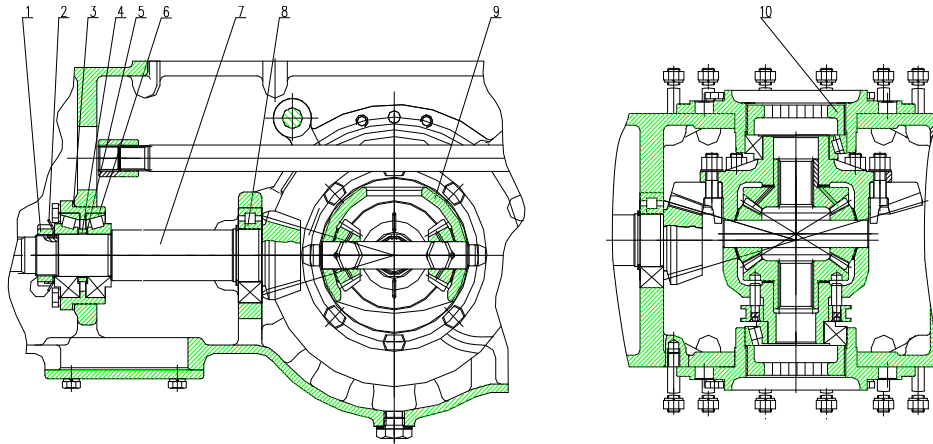

Figure 5-6 Structure of Rear Axle and Its Adjustment
Rear axle is composed of center drive, differential, differential lock and PTO shaft. (Figure 5-6)
- Adjustment of bevel pinion bearing ( Figure 5-6)
Left/right bearing of differential are also pretightened. During using, axial clearance may occur in the large conical gear and pretightening force may reduce due to worn bearing; thus, you should check it regularly (when every 3 class maintenance). When adjusting, tighten the left/right adjusting nuts (Figure 5-6), and keep the axial pressure of the bearing at about 350N.
- Engagement adjustment of central bevel gear ( Figure 5-6)
- Check meshing mark. Smear the tooth surface of large conical gear with catsup thinly and evenly. When going forward, the concave of the bevel pinion suffers the force. Smear the catsup over tooth surface of the large conical gear; turn the gear, and you will get the meshing mark on the bevel pinion. The correct meshing mark shall be near the pitch cone in the middle of the tooth height and a little bit near the small end and at a distance of no less than (3 to 4)mm, whose length shall not be less than 60% of the tooth length and height not be less than 50% of tooth height. When adjusting, make the bevel pinion move axially and turn the adjusting nut, and make the large conical gear move axially to get the correct meshing mark by means of changing the thickness of the adjusting gasket. In order not to damage the pretightening of the differential bearing, the sum of the adjusted quantity of left/right adjusting nuts of the differential shall be zero. (Figure 5-6)。